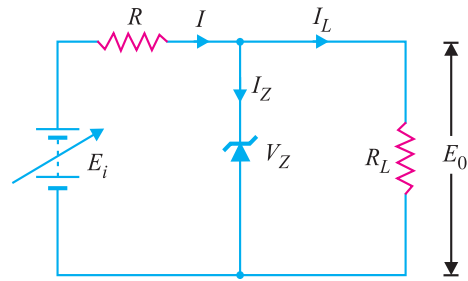

Fig. 6.60
**3. Fixed  $R_L$  and Variable  $E_i$ .** This case is shown in Fig. 6.60. Here the load resistance  $R_L$  is fixed while the applied voltage ( $E_i$ ) changes. Note that there is a definite range of  $E_i$  values that will ensure that zener diode is in the “on” state. Let us calculate that range of values.